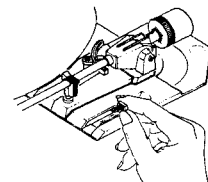

Fig. 18
6. Slide the anti-skating knob until the index mark of the knob points to "1.75" (JVC MD1055II) mark (Fig. 18)